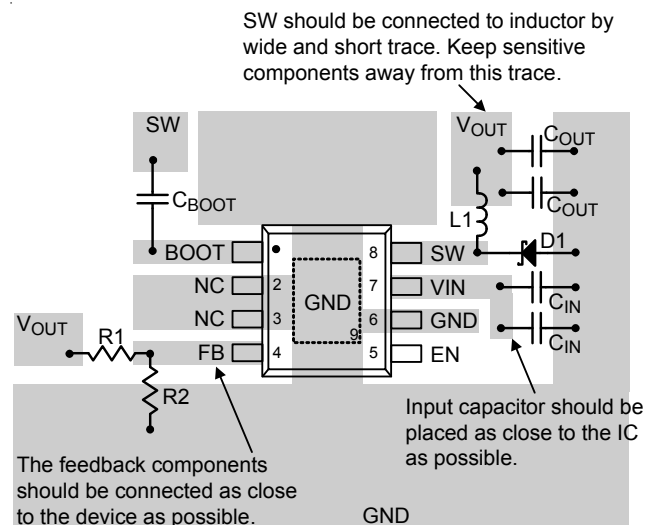

Figure 6. PCB Layout Guide
- An example of PCB layout guide is shown in Figure 6 for reference.